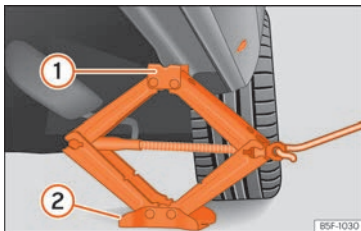

Fig. 222 Crossbar: mounting the jack on the vehicle.
- Turn the jack crank handle, located below the strut support point, to raise it until the tab **1** >>> **Fig. 222** is below the housing that is provided.